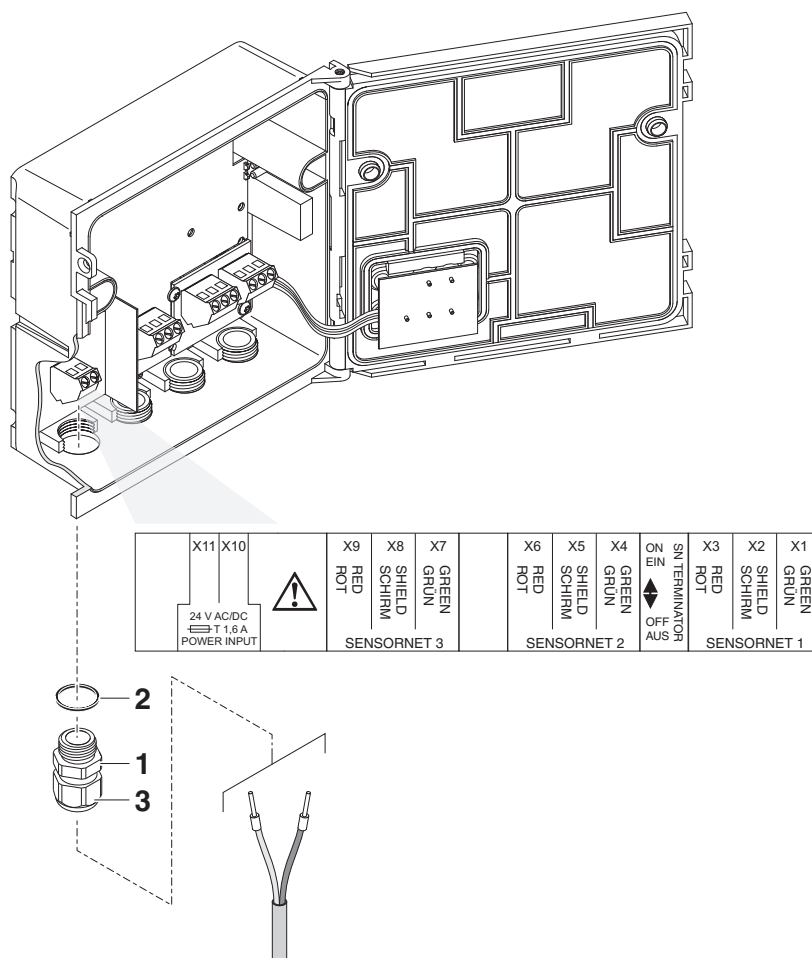

Fig. 3-2 Connecting the 24 V AC/DC cable.
- 5 Screw the cable gland (pos. 1 in Fig. 3-2) with the sealing ring (pos. 2) into the module housing.
- 6 Loosen the coupling ring (pos. 3).
- 9 Tighten the coupling ring (pos. 3).